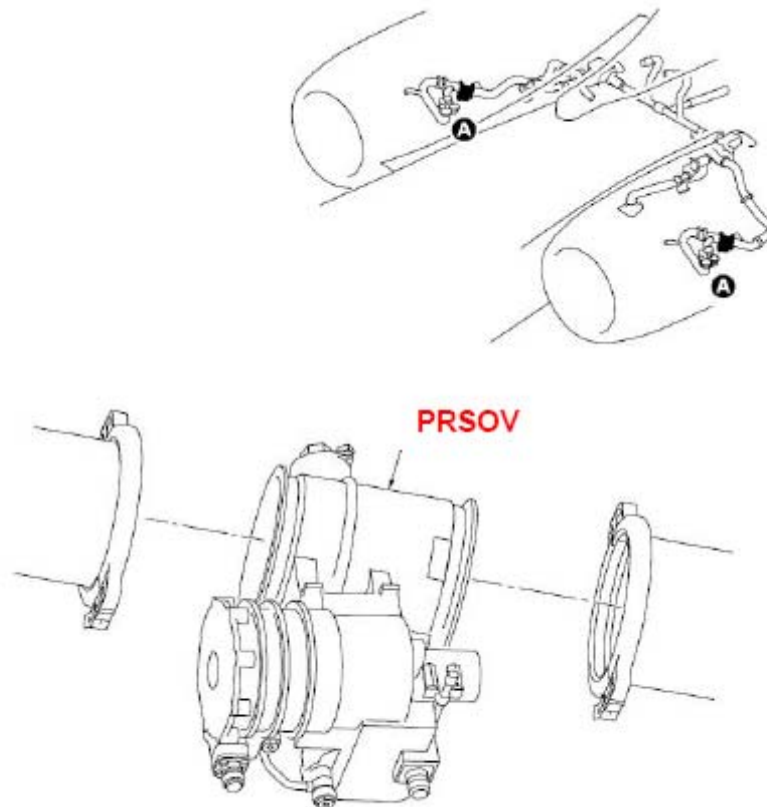

Figure 2:
- (1) Open the engine cowl (AMM Task: 71-10-00-010-801) to access the PRSOV (shown in Figure 2).